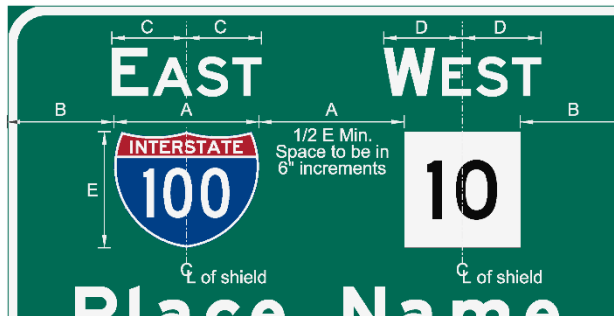

Figure A9
11. If two or more route markers are in the same line of text, they should be spaced from each other approximately equal to the distance of the widest shield, but in no case less than 12 inches. They may be spaced further apart so that the space between two cardinals above is no less than 18” or to achieve a more balanced appearance. The distance between them should be increased in 6 inch increments until the desired spacing is achieved. See Figure A9.
12. If two or more route markers are in the same line of text, they shall be centered in the sign horizontally. Where a cardinal word is used above a shield, the word shall be centered over the shield after the shield has been centered in the sign. Note that the left and right margins for the cardinal may not be the same. See Figure A9.